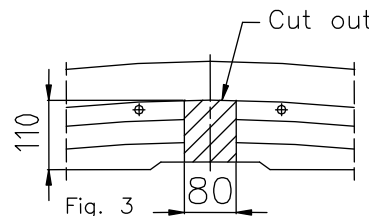

Fig. 3 Cut out
- To the left and right chassis member slip sleeve $L=85$ mm (pos. 10), see fig.
- To drilled holes put sleeves $L=51,5$ mm (pos. 9).
- To the inside of chassis members and rear part of the car put brackets (pos. 4 and 5) and fix using bolts $M10 \times 120$ mm (pos. 11) through sleeves and bolts $M10 \times 35$ mm (pos. 13) through nuts on the jib (pos. 8).
- Put the main bar of the towing hitch (pos. 1) on protruding elements (bolts) of removed metal reinforcement and fix using original nuts $M8$ (from reinforcement) and using $M10 \times 90$ mm (pos. 12) - see fig.
- Elements of the towing hitch (pos. 6 and 7) fix loosely to the original tow handle, and next through holes (pos. A) of ball brackets fix using bolts $M10 \times 30$ mm (pos. 14).
- Fix body of the automat and place tow-ball according to supplied instruction. Note! Remember to place socket plate (pos. 3) as shown on the drawing 1.
- Assemble a cover plate and a bumper (cut out its fragment – see fig. 3 and 4).